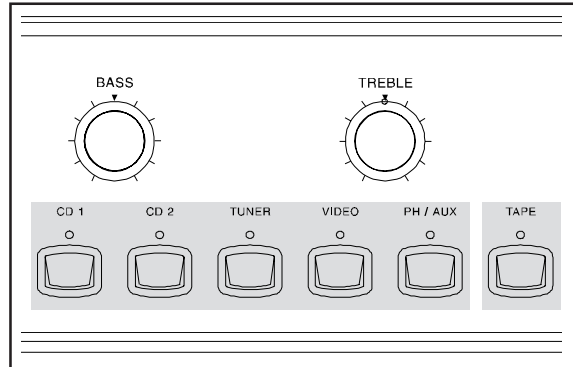

Figure 6
1. Select the source signal you wish to record with the appropriate front panel input push-button. If you wish to record from an Audio/Video source connected to the optional MVS-3 Audio/Video Selector, using the HR033 Remote, first select Video and then the desired source connected to the MVS-3. Refer to Figure 6.
3. To listen to the tape playback of the program source just recorded, press the TAPE input push-button. Refer to Figure 6.